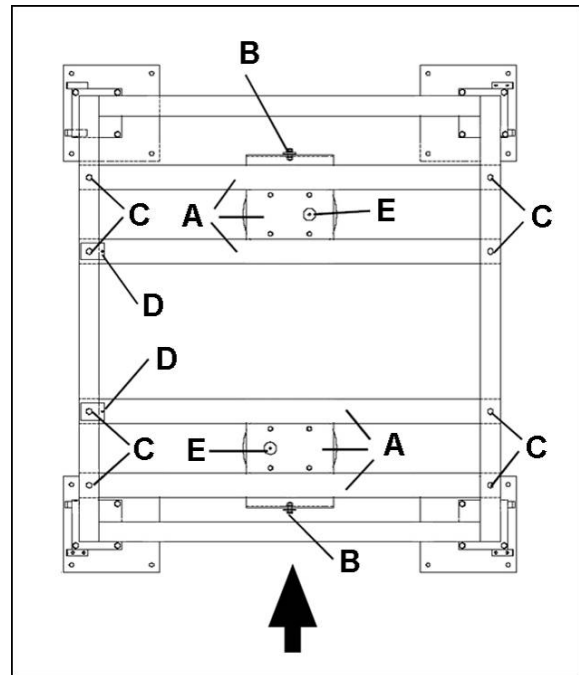

fig. 33
Beam assembly to the frame (figures 33/34)
### 5.5. Pneumatic actuators assembly (figure 33)
- Assemble the beams and the fixed frame. Position of screws in figure 33. Use both central screws on the left side to also secure the support plates **D** of the electrical installation.